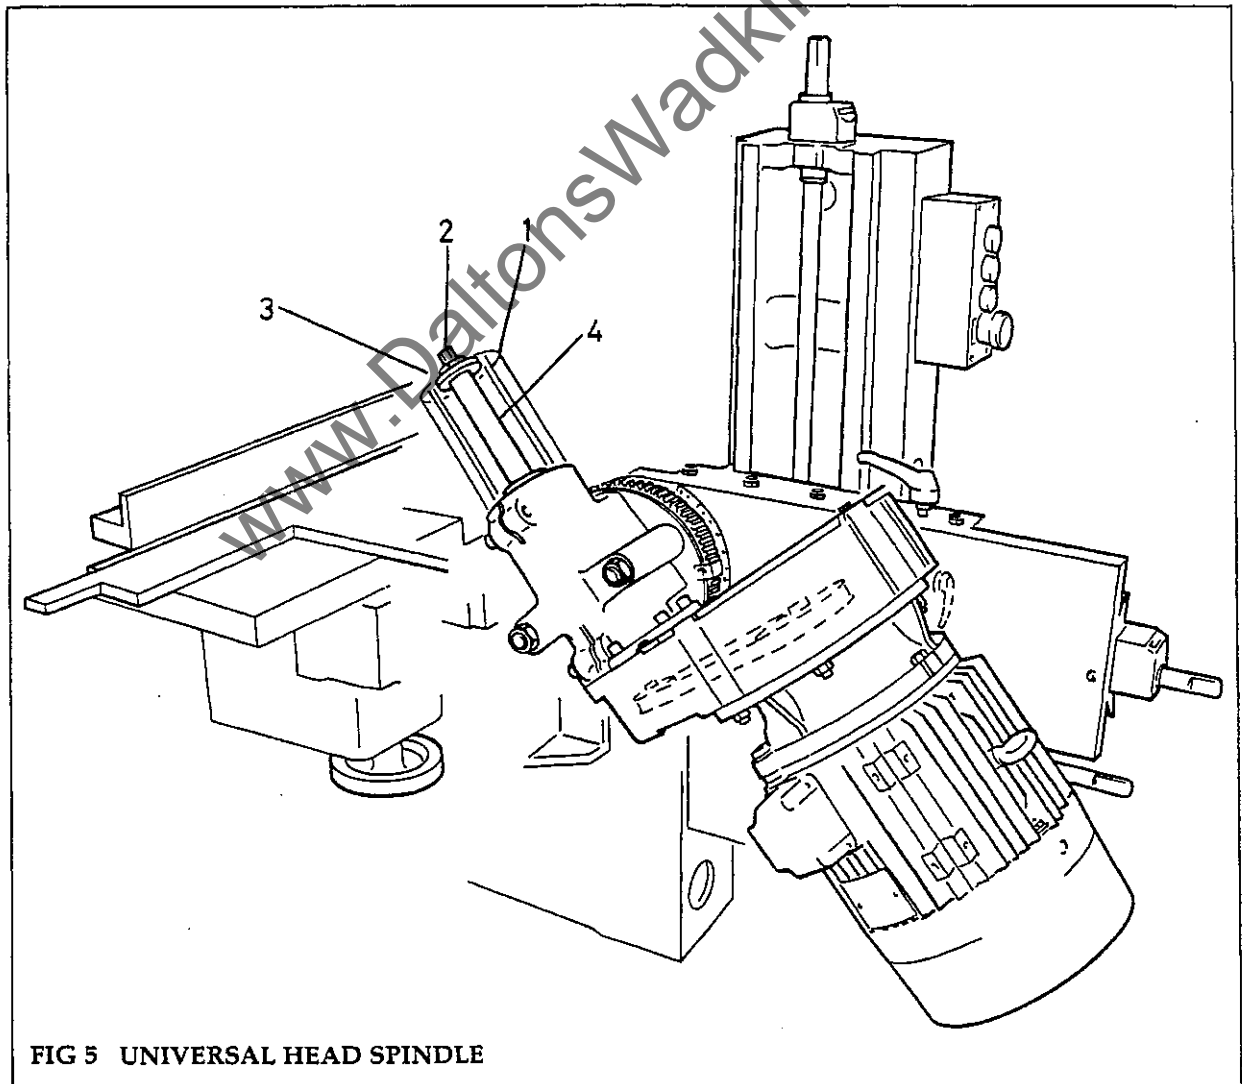

FIG 5 UNIVERSAL HEAD SPINDLE
**UNIVERSAL HEAD (fig 5) - if fitted**
- (1) Remove guard for access, remove existing cutterblock as follows:
- a. Release cutterblock (1) using the combination spanner provided on the spindle hexagon (2) and the two flat faces of the cutterblock locknut (3).
- (2) Check that the spindle flange and the flange end of the replacement cutterblock are clean.
- (3) Slide the new cutterblock (1) onto the spindle (4) and tighten using the combination spanner provided.
NOTE: In the bottom head position always change the cutterblock from the rear of the machine. However, in the vertical mode it is possible to change the cutterblock from the nearside, using a similar procedure. (See fig 21 for Universal head modes). Fig 5 shows the head in the near side vertical (angled or canted) mode.